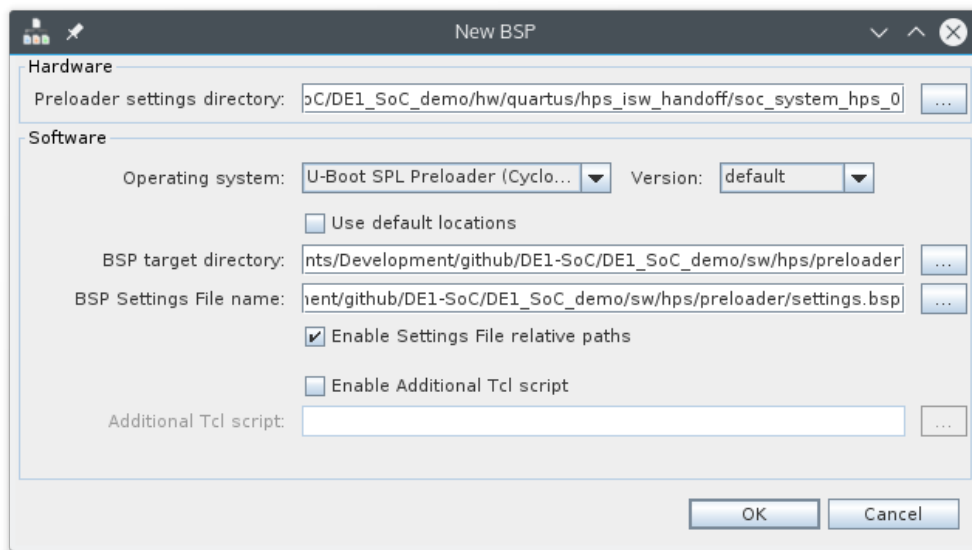

Figure 8-25. New BSP Dialog
- b. Disable the “Use default locations” checkbox and under the “BSP target directory”, select the “DE1_SoC_demo/sw/hps/preloader” directory. You should have something similar to Figure 8-25.